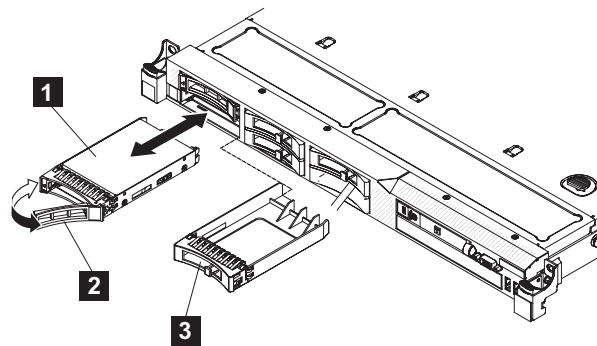

Figure 110. SAN Volume Controller 2145-CG8 or 2145-CF8 drive and drive-bay filler
- b. Align the drive assembly with the guide rails in the bay, as shown in Figure 110.